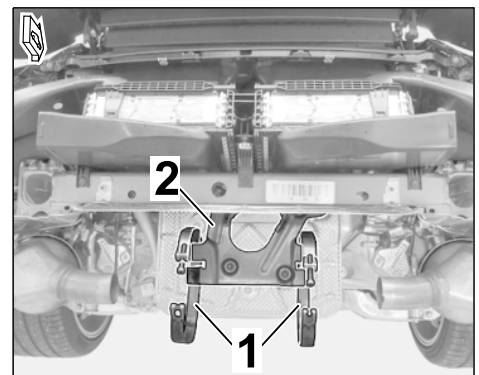

Figure 5
- 2.4.1 Engage new restraining strap (2 ea.) with screw heads facing downwards on the muffler holder (⇒ *Figure 5*).